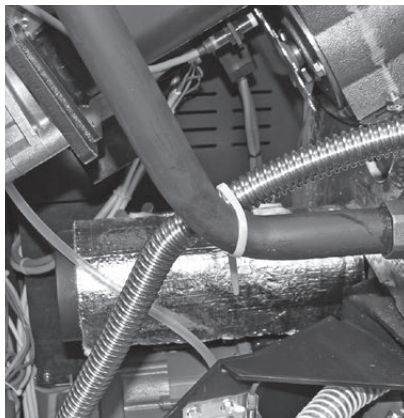

Fig. 26 Securing return corrugated tube to flow pipe with cable tie
- Secure return corrugated tube to flow pipe with cable tie (part 5) and re-attach insulation – Fig. 26.